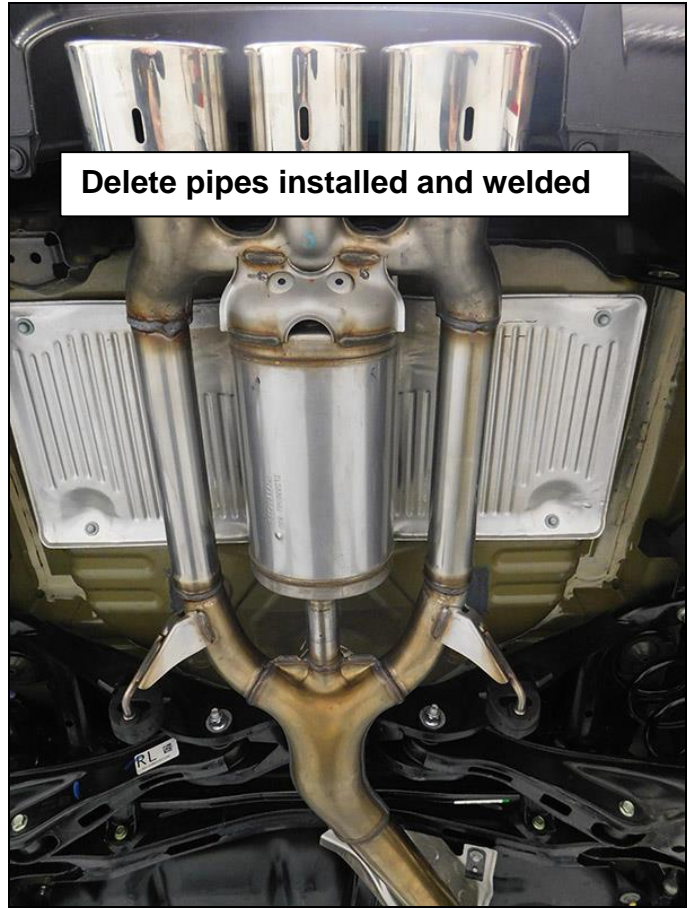

Figure 4
7. Weld completely around all four intersections. Allow to fully cool before re installing the exhaust (**Figure 4**).